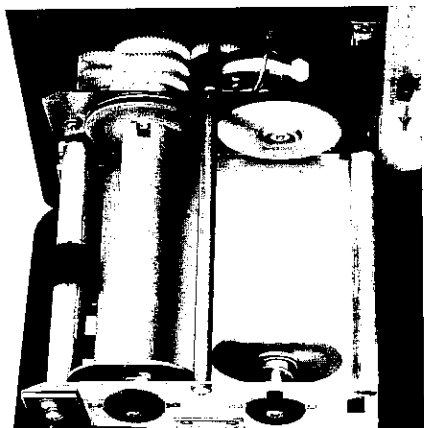

Fig. 28
6. Remove the empty supply core from the right side in the same manner. Align the two notches in the core with the tabs on the lower take-up spool. (See Fig. 28) Push the paper retainer knob in and rotate it until it locks into place.